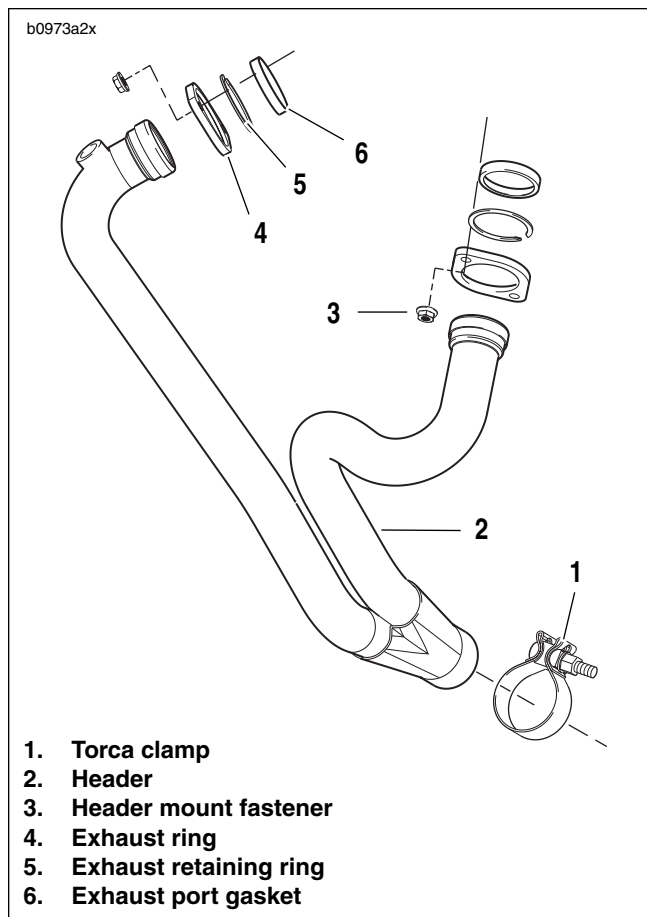

Figure 2-110. Exhaust Header
6. See Figure 2-110. Loosen Torca clamp (1) and lower muffler.
3. See Figure 2-110. Remove exhaust header (2) by removing mounting fasteners (3).
4. Remove exhaust ring (4), retaining ring (5) and port gas-ket (6).
1. See Figure 2-110. Install exhaust ring (4), retaining ring (5) and **new** port gasket (6).
2. Install exhaust header (2). Tighten mounting fasteners (3) to 72-96 **in-lbs** (8-11 Nm).
4. See Figure 2-110. Tighten the Torca clamp (1) to 28-30 ft-lbs (38-40.6Nm).